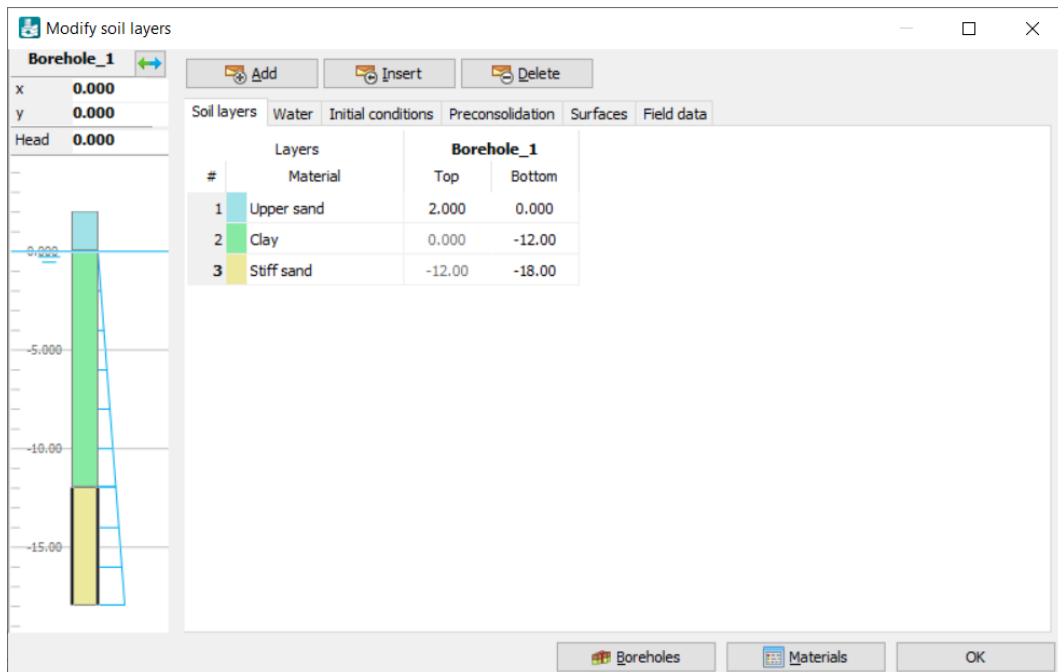

Figure 5-2: Soil layer distribution
- 2 Assign the material data sets to the corresponding soil layers (Figure 5-2 \(p. 83\)) and close the **Modify soil layers** window. The concrete data set will be assigned later.